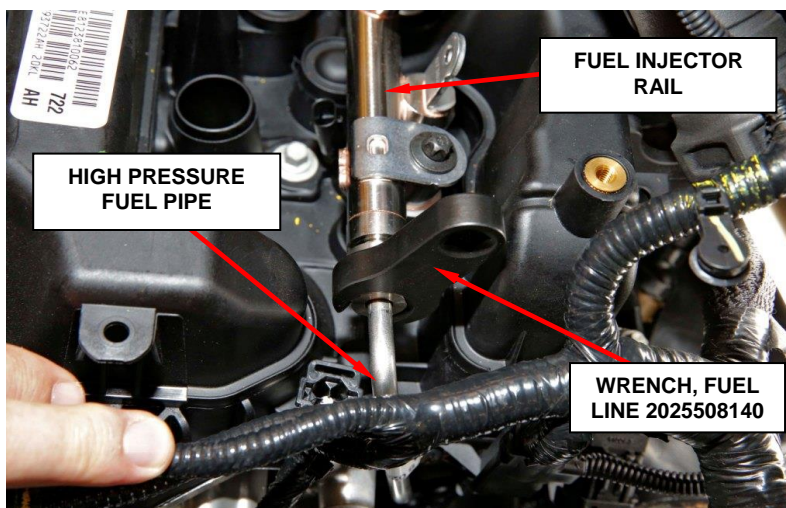

Figure 12 – High Pressure Fuel Pipe
35. Place a shop towel below the high-pressure fuel pipe and using the Wrench, Fuel Line **2025508140**, disconnect at fuel injector rail and pump and discard the pipe (Figure 12).